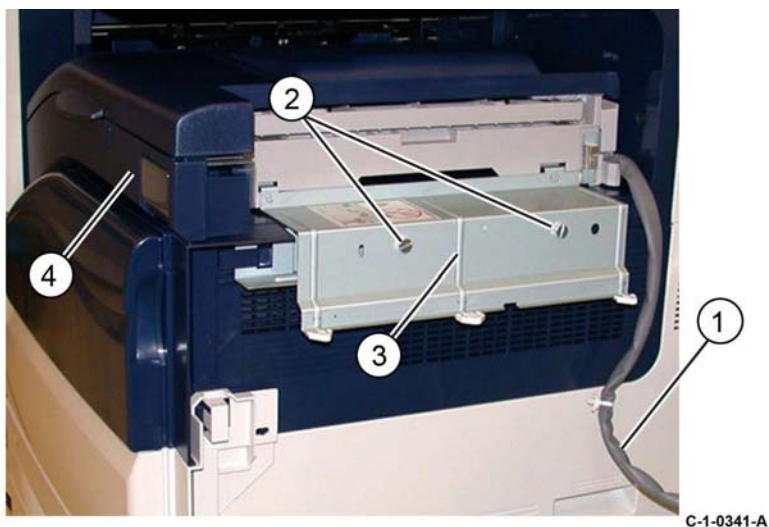

Figure 1 H-transport removal
2. Remove the H-transport assembly, Figure 1:
- a. Disconnect the harness (1).
- b. Remove two screws (2).
- c. Remove the docking plate (3).
- d. Remove the H-transport (4).